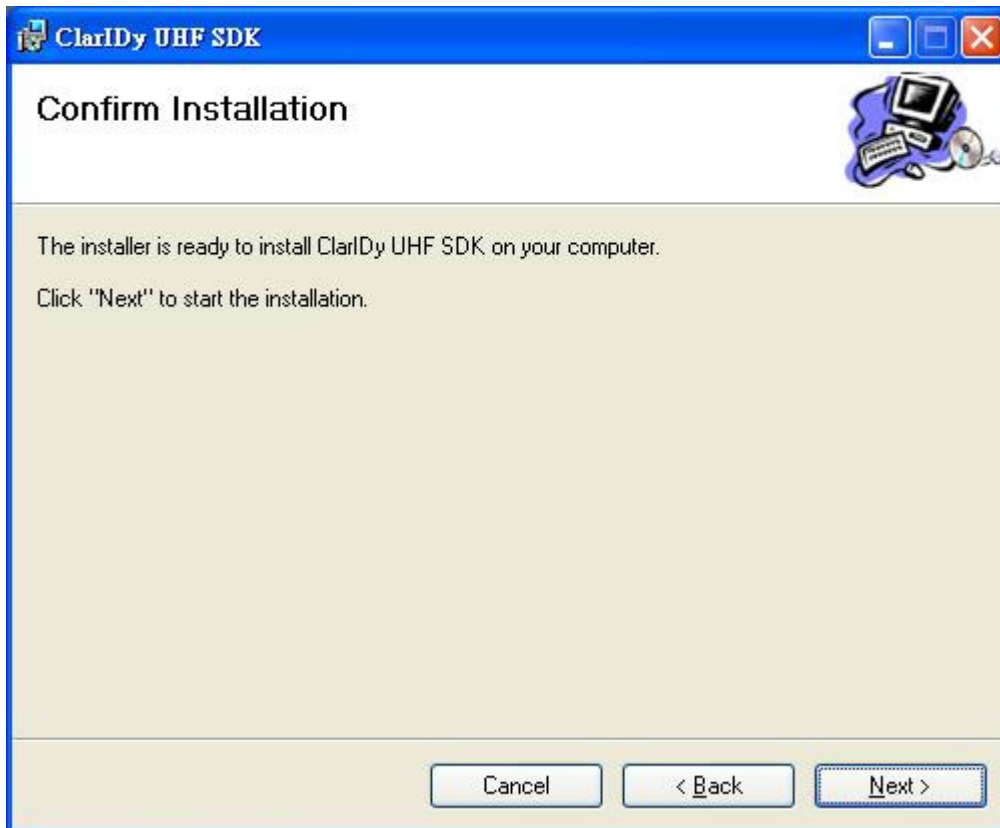

Figure 16
4. Click "Next" to start installation, as figure 16.